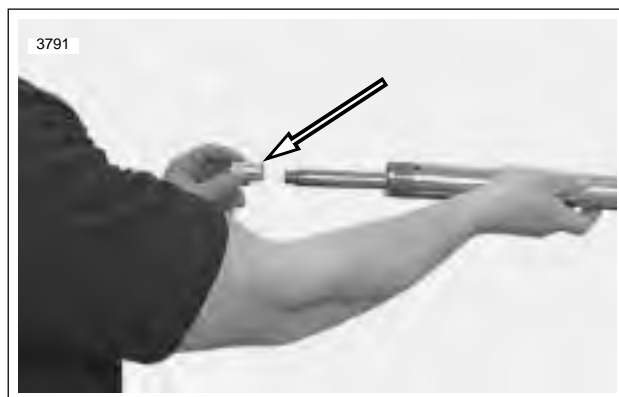

Figure 2-81. Lock Piece
4. See Figure 2-81. Install lock piece into damper.